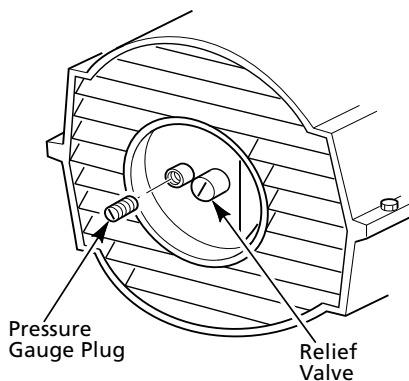

Figure 12 - Pressure Gauge Plug Removal
1. Remove pressure gauge plug from filter end cover (See Figure 12).